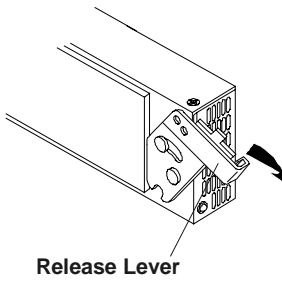

Figure 9-4. Moving Release Lever Down
2. Before installing the new power supply module, pinch the release and pull it down. See Figure 9-4.